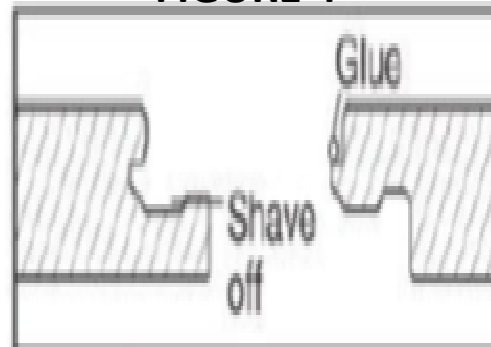

FIGURE 6
4. If the last row is under a counter not allowing an angle click of the long joint, shave off the bottom of the groove and apply wood glue, then slip the tongue into the adjacent plank (figure 6). Wipe clean excess adhesive.
2. Using a small plane or knife, carefully shave off the ledge of the groove (figure 6).